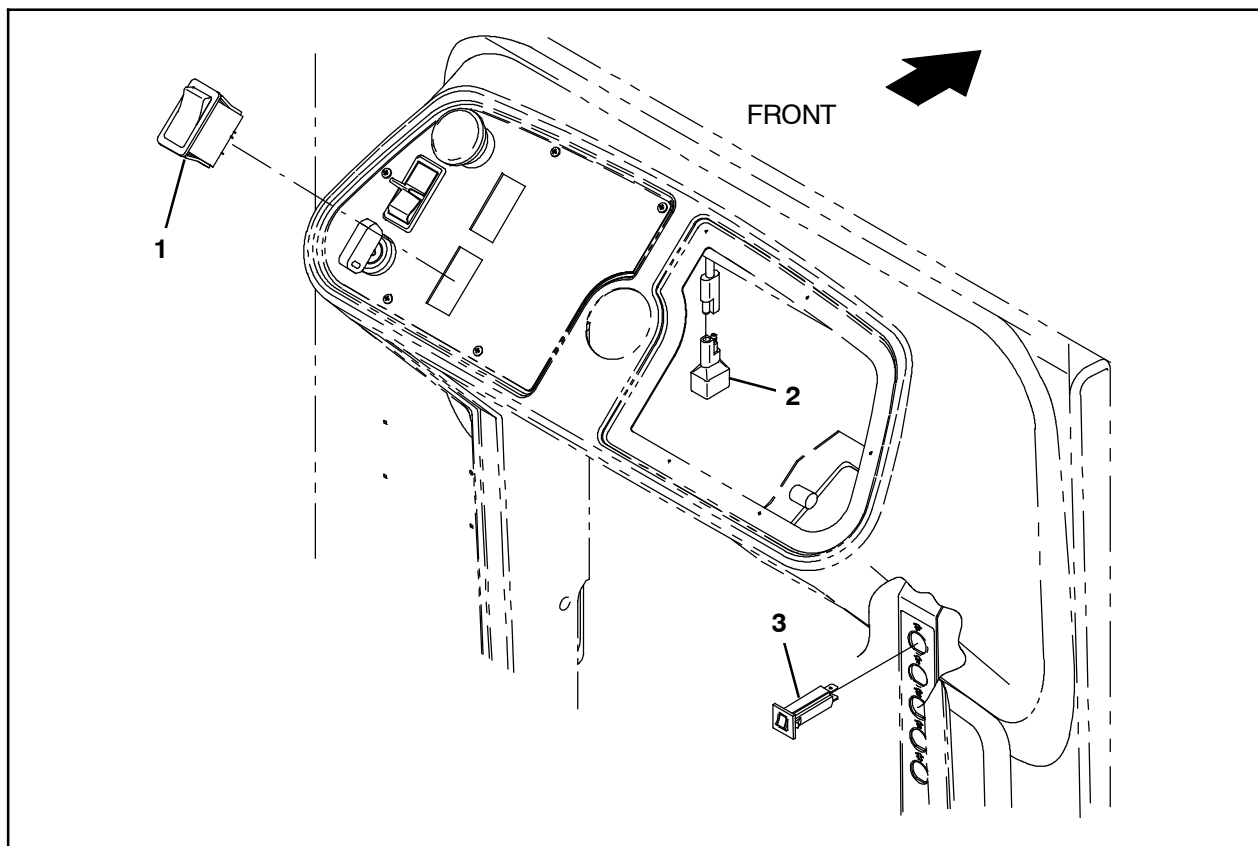

FIG. 10
32. Install the 15- Amp circuit breaker (3) into the circuit breaker panel location 10 and connect the main wire harness to the circuit breaker. (Fig. 10)
33. Plug the electrical diode (2) into the main wire harness. (Fig. 10)
35. Carefully pull the control panel from the machine. Do not break any wire/cable connections. (Fig. 10)
36. Remove the plug from the control panel and insert the switch (1) into the location where the plug was previously located. (Fig. 10)
37. Connect the main wire harness to the switch (1). (Fig. 10)
38. Reinstall the control panel onto the machine. (Fig. 10)